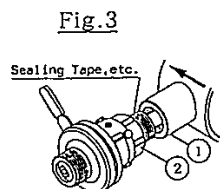

Fig.3-1
- (1) Seal the screwing part of Pitot Tube with Sealing Tape, etc., and screw the hexagon part(2) onto Socket(1) with Wrench tightly.(Fig.3-1)